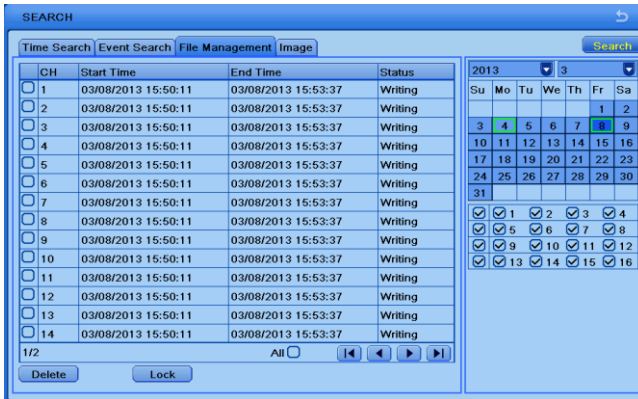

Fig 5-3 Search Configuration-File Management
- Go to Main Menu→Search→File Management interface. Refer to Fig 5-3.